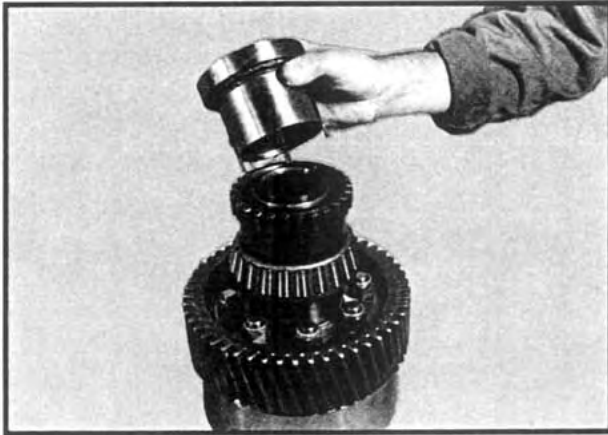

Fig 45
- Place the large gear into position on the front differential case half. It may be desirable to heat the gear slightly. Allow the gear to cool completely, and install the (8) gear retaining lock nuts. Torque to specification. Heat and install the front bearing cone assembly against the shoulder on the case.
- slide the clutch gear into place against the bearing cone. Install the clutch gear retaining locknut using Fabco Tool 866-0368 or equivalent. See Figure 45. Torque to specification.